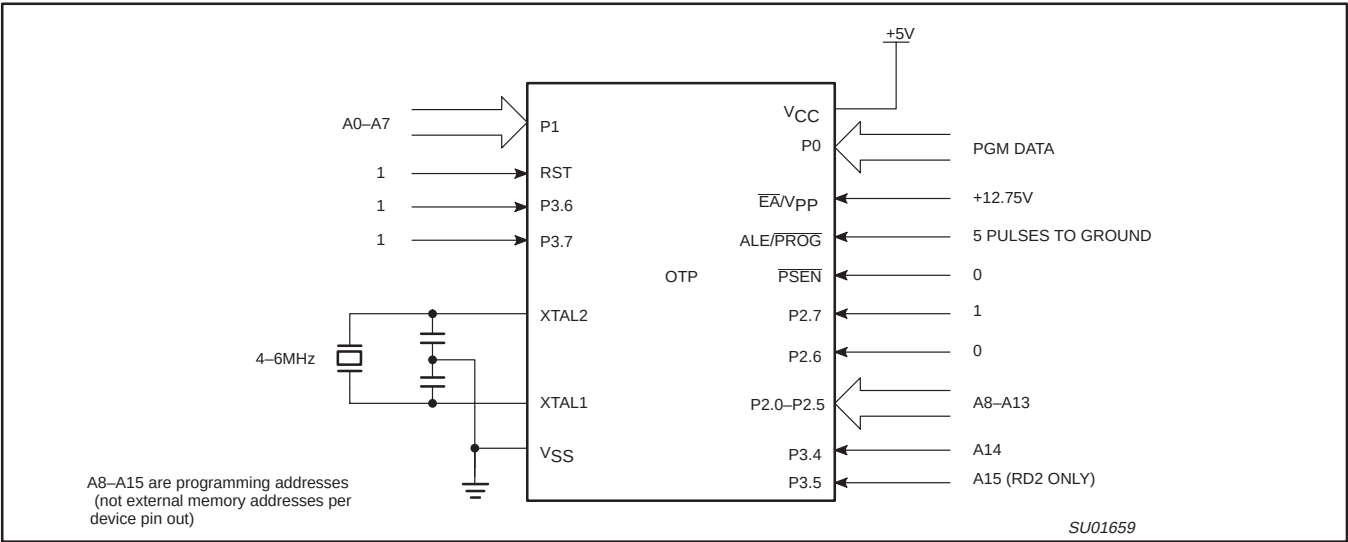
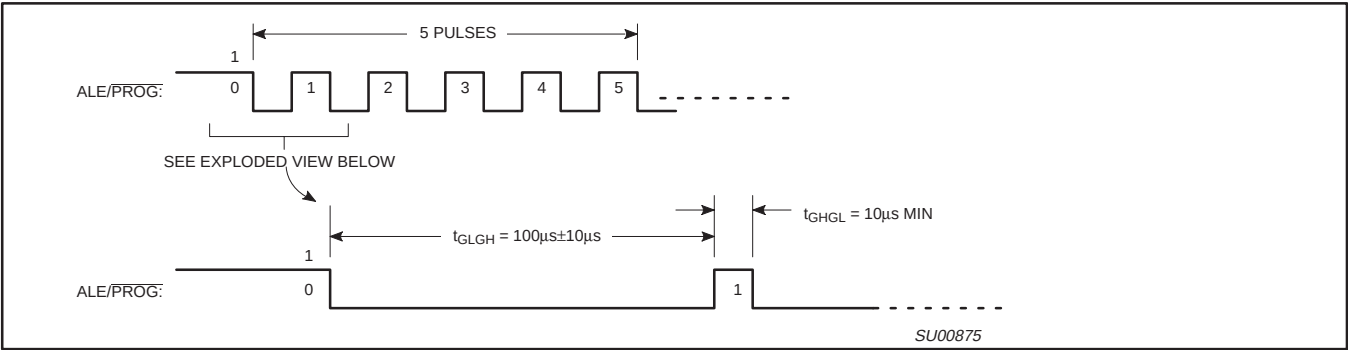
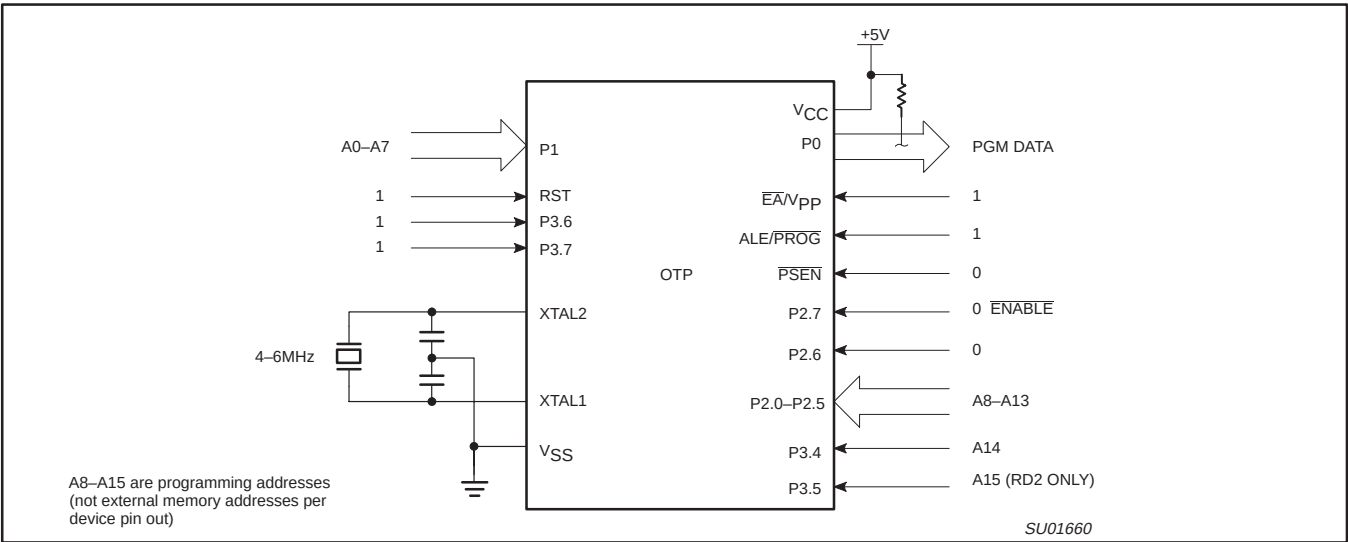

Figure 64. Programming Configuration
Figure 65. PROG Waveform
Figure 66. Program Verification
Table 17 shows the logic levels for reading the signature byte, and for programming the program memory, the encryption table, and the security bits. The circuit configuration and waveforms for quick-pulse programming are shown in Figures 64 and 65. Figure 66 shows the circuit configuration for normal program memory verification.
The setup for microcontroller quick-pulse programming is shown in Figure 64. Note that the device is running with a 4 to 6MHz oscillator. The reason the oscillator needs to be running is that the device is executing internal address and program data transfers.
The address of the EPROM location to be programmed is applied to ports 1 and 2, as shown in Figure 64. The code byte to be programmed into that location is applied to port 0. RST, $\overline{PSEN}$ and pins of ports 2 and 3 specified in Table 17 are held at the 'Program Code Data' levels indicated in Table 17. The ALE/PROG is pulsed LOW 5 times as shown in Figure 65.
If security bits 2 and 3 have not been programmed, the on-chip program memory can be read out for program verification. The address of the program memory locations to be read is applied to ports 1 and 2 as shown in Figure 66. The other pins are held at the 'Verify Code Data' levels indicated in Table 17. The contents of the address location will be emitted on port 0. External pull-ups are required on port 0 for this operation.
* FOR PROGRAMMING CONFIGURATION SEE FIGURE 64.
FOR VERIFICATION CONDITIONS SEE FIGURE 66.